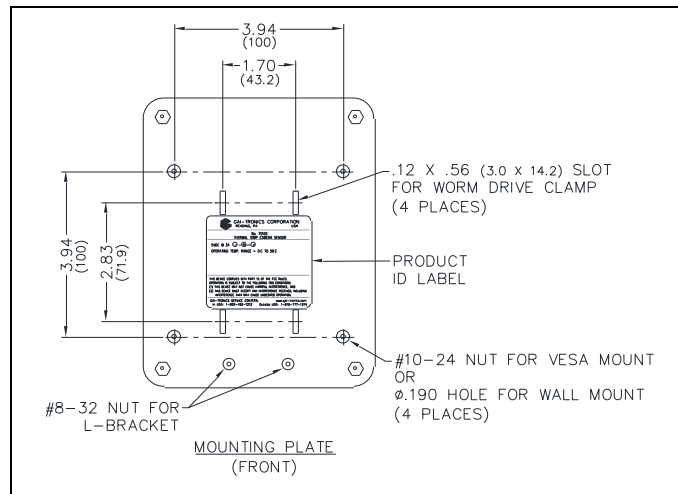

Figure 4. Mounting Plate Detail
1. Secure the mounting plate (see Figure 4) to a flat surface using (*customer supplied*) hardware.
1. Secure the TS100 mounting plate (see Figure 4) to a pole using (*customer supplied*) worm-drive clamps
Attach a VESA (video electronics standards association) mount to the mounting plate with the included #10-24 screws and washers (see Figure 4).